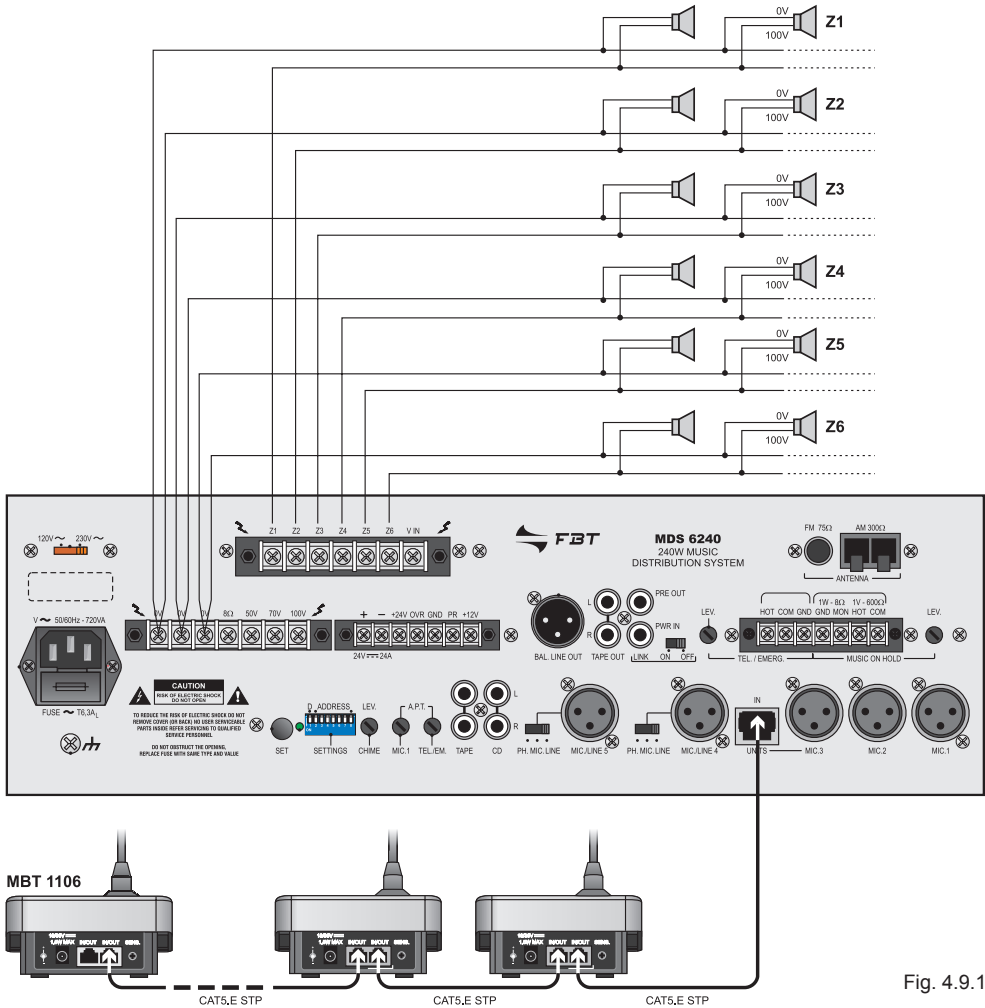

Fig. 4.9.1
Connecting the **MBT 1106** microphone stations to **MDS 6000** compact systems is simple and rapidly achieved. Both these pre-amplified microphone stations feature electret microphones, and enable messages to be sent to one or more listening zones. **To connect these two models, it is ESSENTIAL to use STP CAT 5.E cables (shielded).** The selection will be made automatically via connection to the **IN UNITS socket (22)**. An example of a connection for a six-zone calling system is illustrated in Figure 4.9.1. The output level is controlled from the front panel (2).